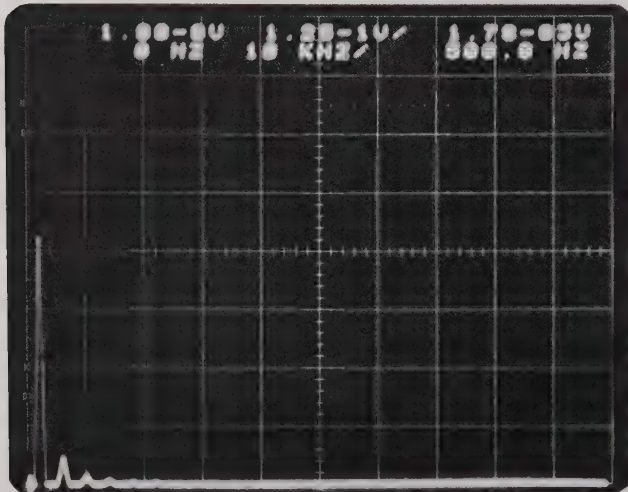

Fig. 4-10a Linear Amplitude Scale; Spectrum Gain = x 1
- c. Move the SPECTRUM AMPLITUDE switch to LINEAR (Fig. 4-10a). The vertical scale is in units of V rms. Press the SPECTRUM GAIN up once. The display will be expanded by 5x (Fig. 4-10b), and the full scale amplitude will go from 1.00 to 0.2 V rms. Press it upward again, and the display will expand by 10x. Other gain factors are x 50 and x 100.